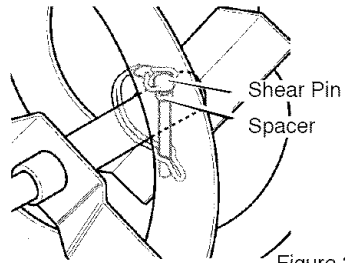

Figure 37
3. Align the hole in the auger with the hole in the auger shaft. Install the new **shear pin** and **spacer**. See Figure 37.